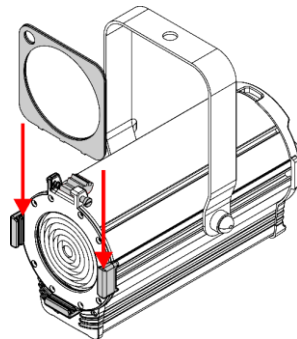

Fig. 14
- 03) Insert the color frame into the **color frame holders (04)** (see Fig. 14).